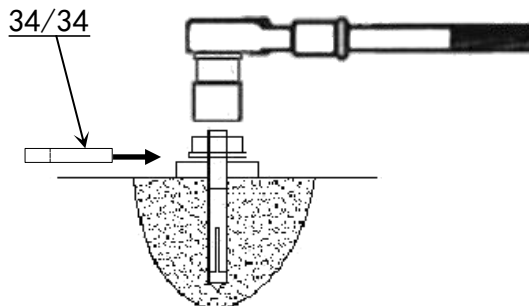

Fig.20
H. Install offside platform and platform strengthen bolts, check the verticality with level bar , adjusting with the shims and tighten the anchor screws. (See Fig. 20)